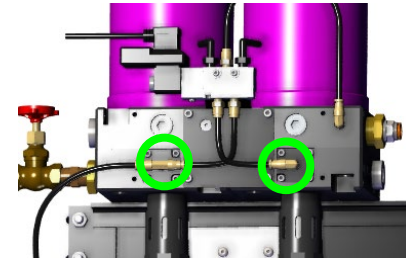

Figure 3
- Disconnect tubing from quick-connect fitting located on piston cover. Push in on brass ring. While holding ring in, pull out tubing. Figure 3
- Reconnect tubing to quick-connect fitting located on piston cover. Figure 3